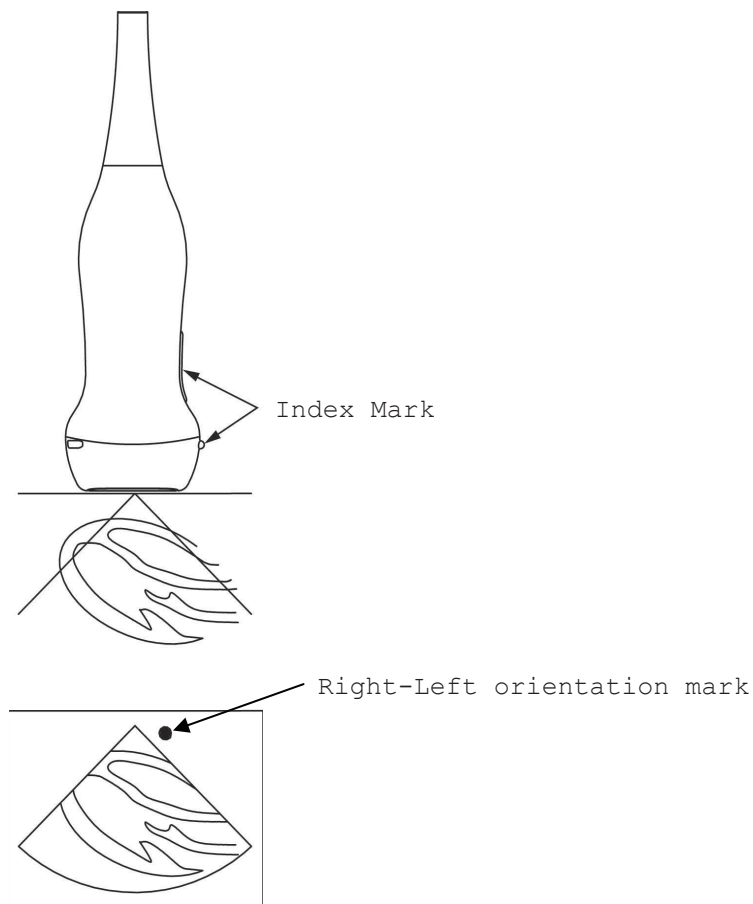

Fig. 2 Relationship between direction Index Mark and Right-Left orientation Mark
- 3) Relationship between direction of the probe and the image is shown in Fig. 2. The right-left orientation mark on the image indicates the index mark on the probe.